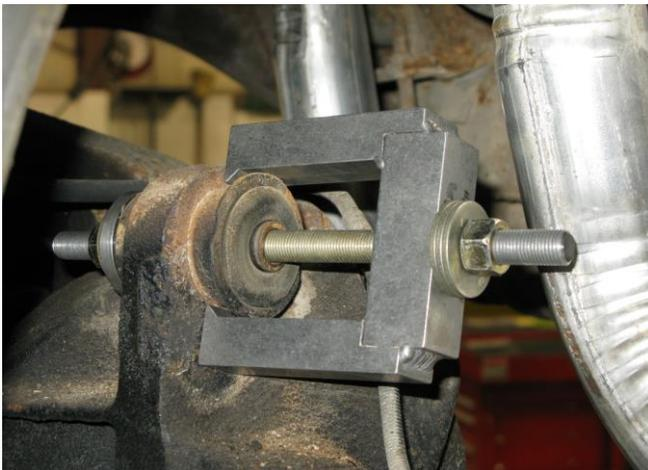
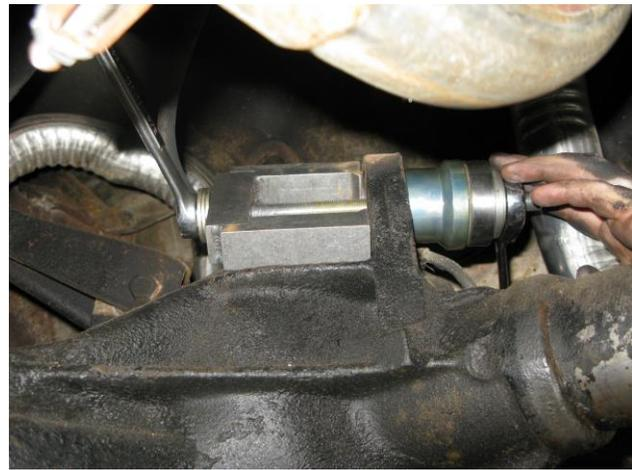

Figure 1 - Bushing removal
Figure 2 - Bushing Installation
3. With the upper link removed, remove the rubber bushing from the rear axle housing using a bushing removal/installation tool. Figure 1 below shows the tool assembled on the rear axle for bushing removal. Figure 2 shows the bushing being installed. **NOTE:** Be sure to lubricate the threads and the washers of the tool with anti-seize to prevent galling during installation and removal.